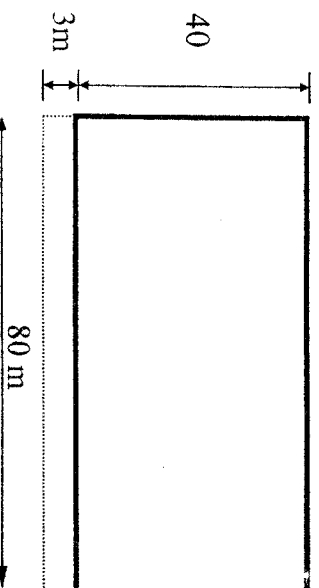

Fig. 5
- 2- Fig. 5 shows key plan for an exhibition hall with clear height of 5 m, it is required to carry out the following using cylindrical shell covering system: